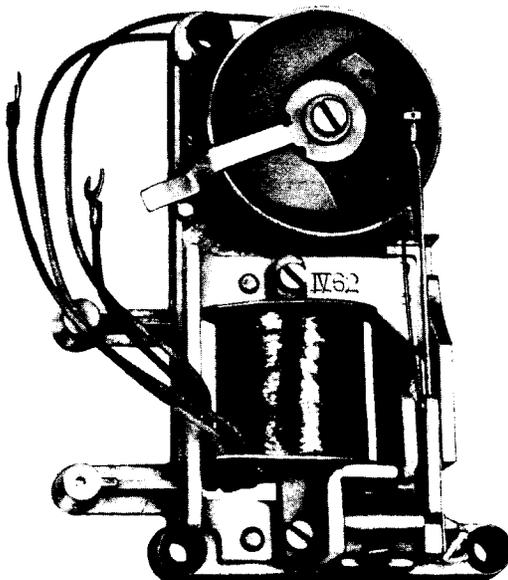

Fig. 1—D1C Ringer
2.01 Fig. 1 and 2 show typical D1-Type ringers and their component parts.